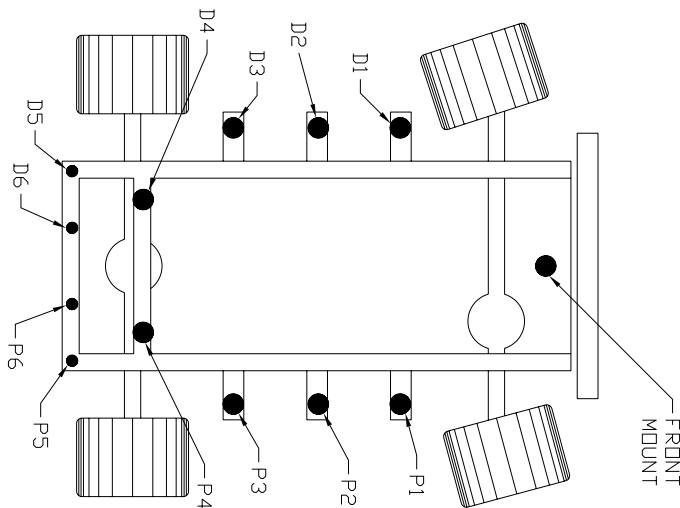

Figure 4
- Remove body mount bolts at the following locations as indicated – Fig 4: FRONT MOUNT, P1, P2, P3, P4, P5, P6, and D6.